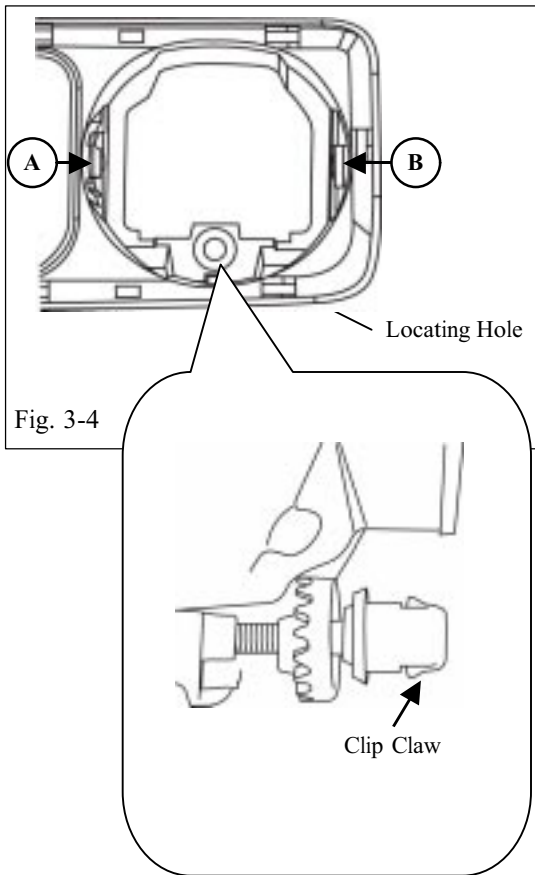

Fig. 3-4
-  (e) Confirm that the lamp adjustment screw retention clip claw is snapped into the locating hole. (Fig. 3-4)
-  (f) Confirm that the fog light black pivot posts are secure in grill housing at locations A and B (Fig. 3-4)